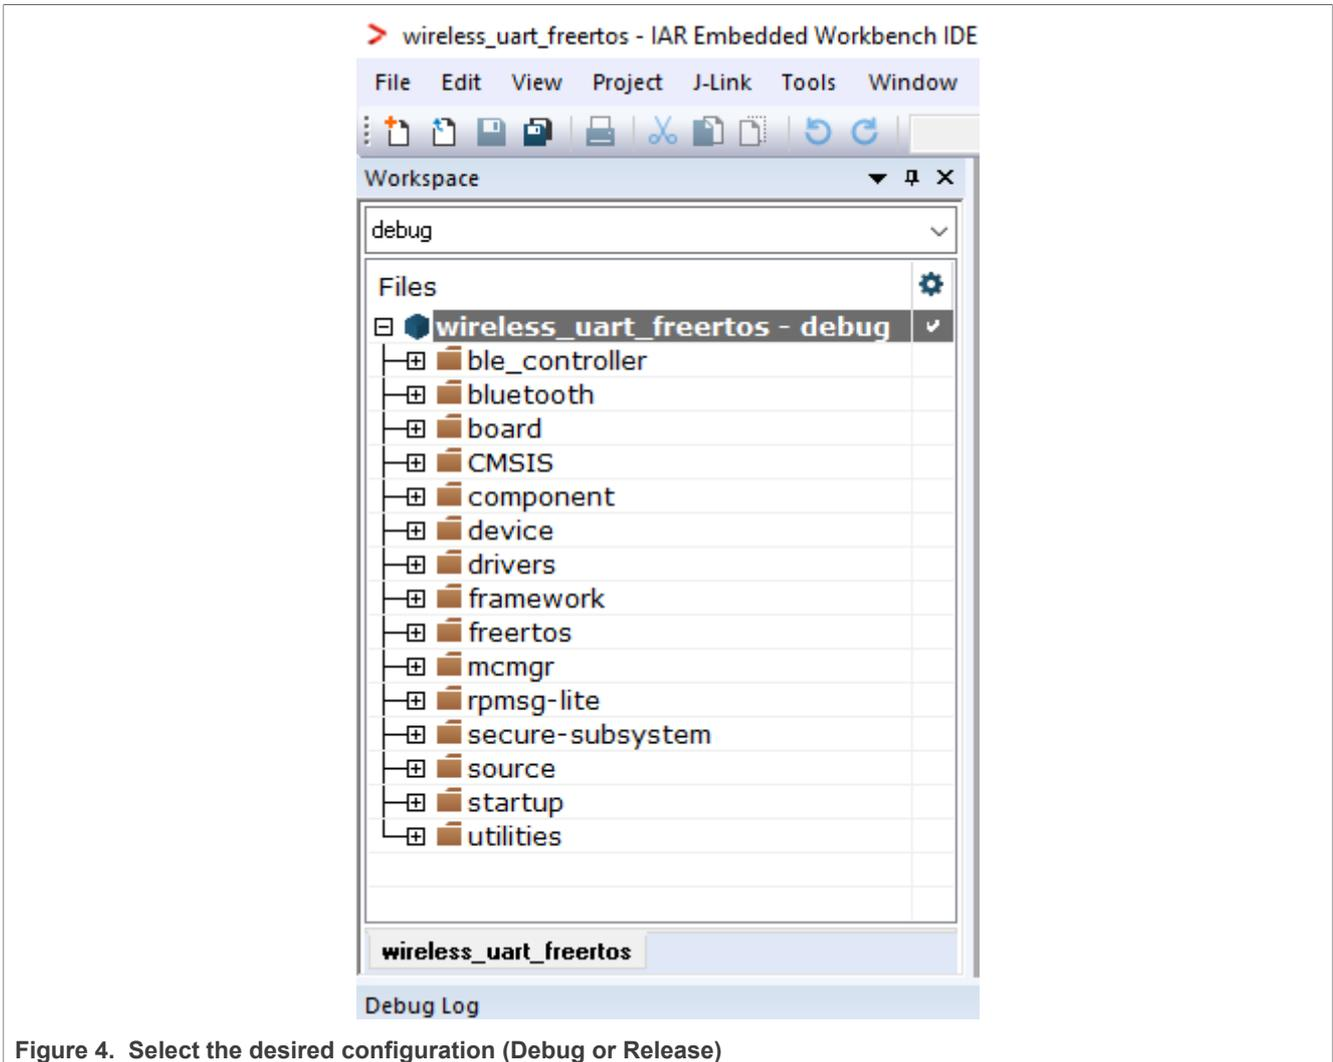

Figure 4. Select the desired configuration (Debug or Release)
3. Choose between Debug and Release configurations in the drop-down selector above the project tree in the workspace, as seen in Figure 4.